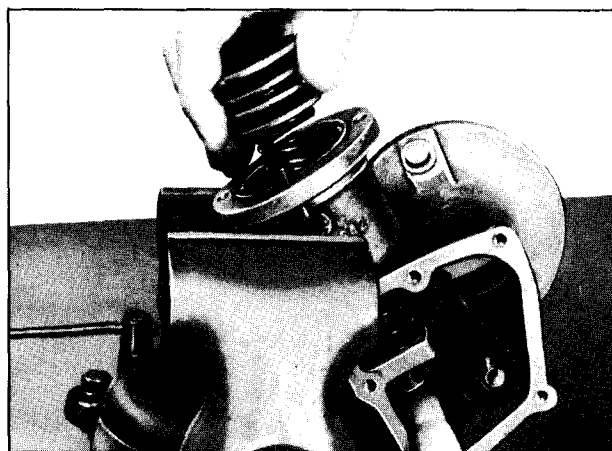

Figure 37—Removing or Installing Piston, Push Rod, and Spring
6. Push piston, push rod and compression spring through top of cylinder (fig. 37).